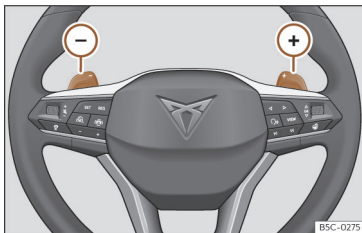

Fig. 124 Steering wheel: automatic gearbox levers
- Press the (+) gear shift paddle to change up a gear >>> **Fig. 124**.